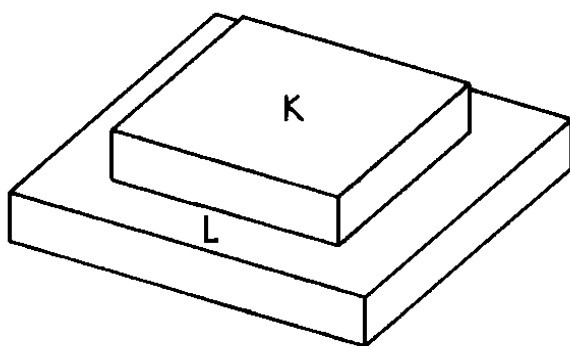

Figure 6
16. Center one small leg (K) over one large leg (L), as shown in *Figure 6*. Apply glue to the back of the small leg (K), reposition it on the large leg (L) and screw through the small leg (K) into the large leg (L). Use three 1-1/4" screws on each joint.
17. Repeat Step 16 three more times using the remaining three small legs (K) and three large legs (L).
18. Apply glue to the top of one small leg (K) and attach one leg assembly (K/L) to one corner of the base assembly. The large leg (L) portion of the leg assembly should be even with the outer edges of the base assembly. Screw through the leg assembly into the base assembly, using three 2-inch screws.